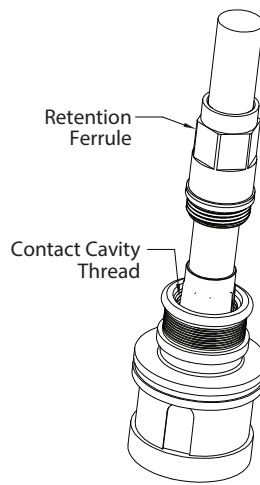

FIGURE 2
- Slide the retention ferrule far enough back on the cable that you're able to bottom out the SpeedMaster assembly without the threads engaging. (Figure 2)